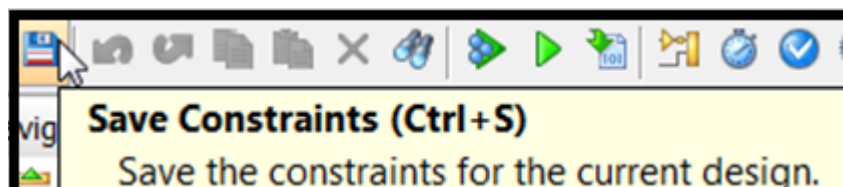

Figure 36: Save Constraints Option
- In the main Vivado toolbar, click the **Save Constraints** button to save the design after you insert the debug cores, (Figure 36).